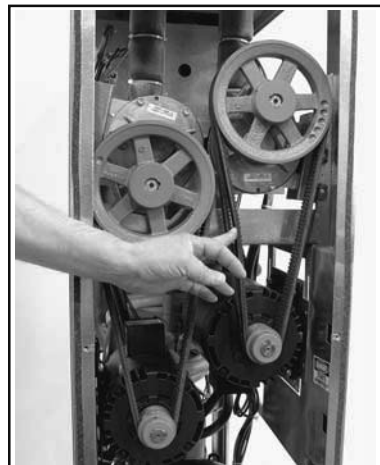

Figure 21. Belt Adjustment (Model 237 Shown)
To check belt tension, refer to Figure 21 and follow the steps below:
- B. Press firmly on one belt. (See Figure 21)